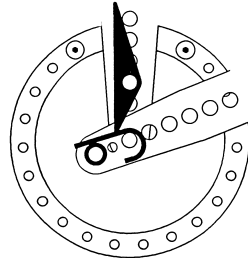

Figure 10
4. Insert the flat stock into the Bender so that it extends 1-3/4" beyond the center point. Secure the stock into position against the Square Stop Block (3) with a clamp or vise grip.
6. Remove the Square Stop Block (3) and the die. Put on the Right Angle Bending Attachment (7).
7. With the workpiece as tight against the Long Hitch Pin (1) in the center as is possible, make a right angle bend-see Figure 10.